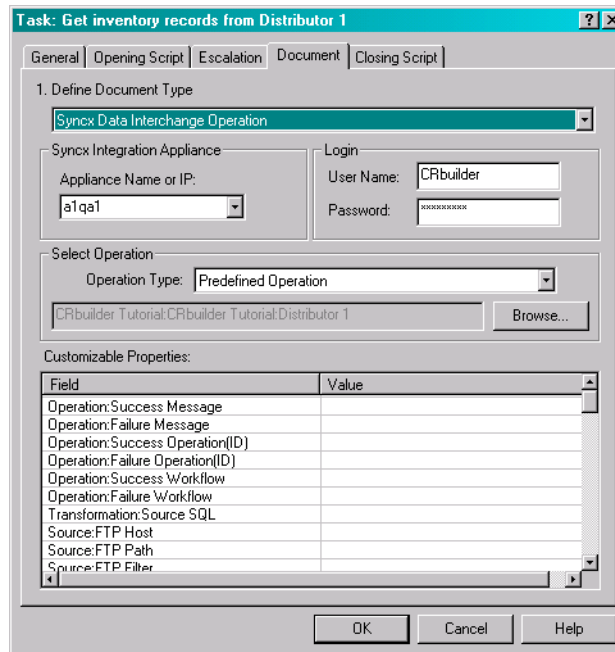

Figure 28-28. The task's document tab with an associated operation.
- 8 Compare your work to Figure 28-28, below.